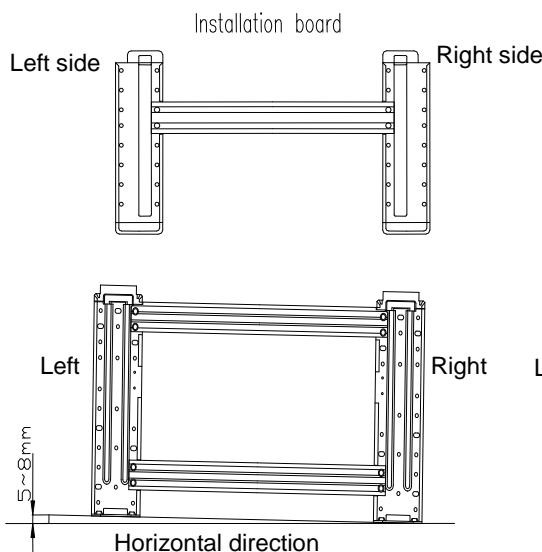

Fig.4
- Drill holes as Fig. 4 shows. The hole, 80mm in diameter, should slightly slide down outwards..